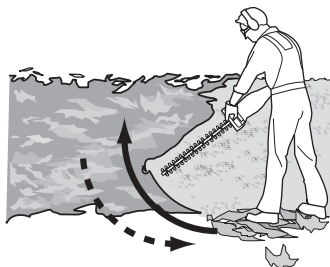

Fig. 5
5. First cutting both sides from the bottom upwards to the top. This will prevent any of the cuttings falling into the path of the area still to be cut (Fig. 5).